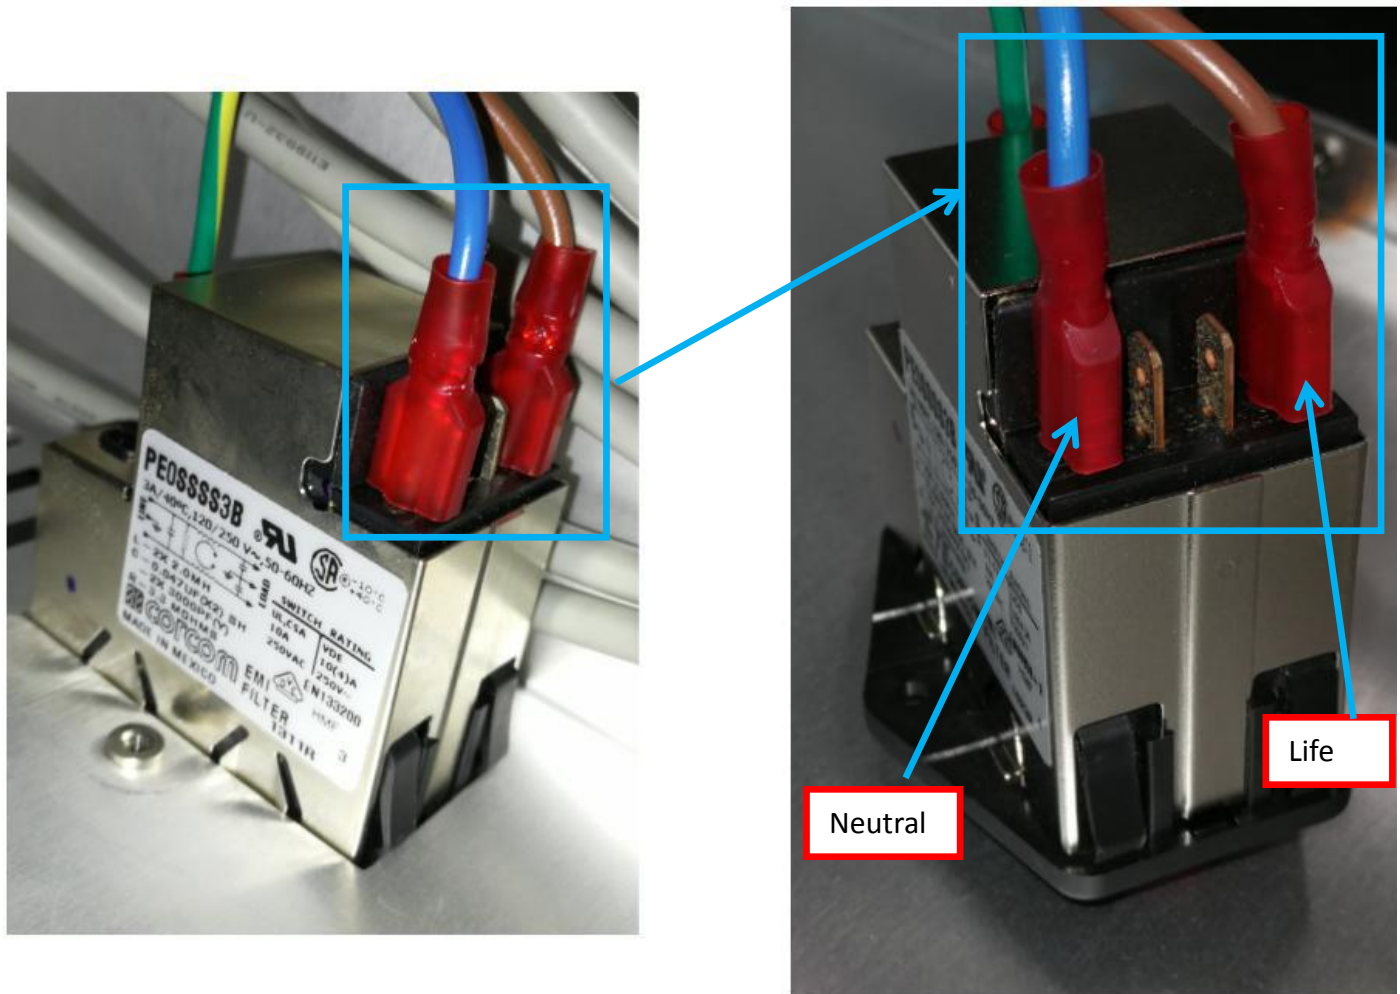

Figure 29 Power Switch Power Cable connection
12. Connect Power Switch Life & Neutral Cable into Power Switch by refer to below orientation. May refer to Figure 29